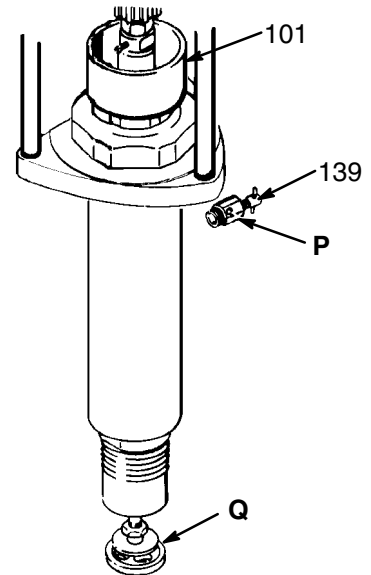

Fig 2
If the pump fails to prime properly, open the bleeder valve (139) slightly. Use the bleeder hole (P) as a priming valve until the fluid appears at the hole. See Fig 2. Close the bleeder valve.